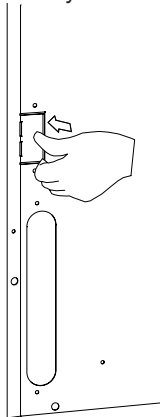

Figure 14
2. Bend the tab out of the way. See **Figure 14**.